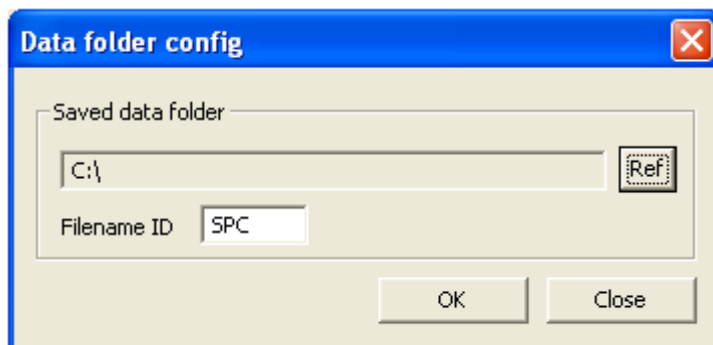

Figure 7-2-2. Data Folder Configuration Window
Clicking "Retrieval" button with the "Start time", "End time", and "Comment" fields as blank will retrieve all measured data in ESM files, which meet the file saved location (Ref) and "Filename ID" conditions setup at the Data Folder Configuration Window (Figure 7-2-2).
**NOTE:** PC operation may slow down when large amounts of data are listed in the data view list, which creating more loads reading the data on the software. In that case, either to reduce the displaying data quantity which are searched after entering the "Start Time" or the "End Time" on the data search field, or reduce the displaying data quantity on the Data View List by changing the "Filename ID" on the Data Folder Configuration Window (Figure 7-2-2) and divide the data into several files.
(2) Deleting Data